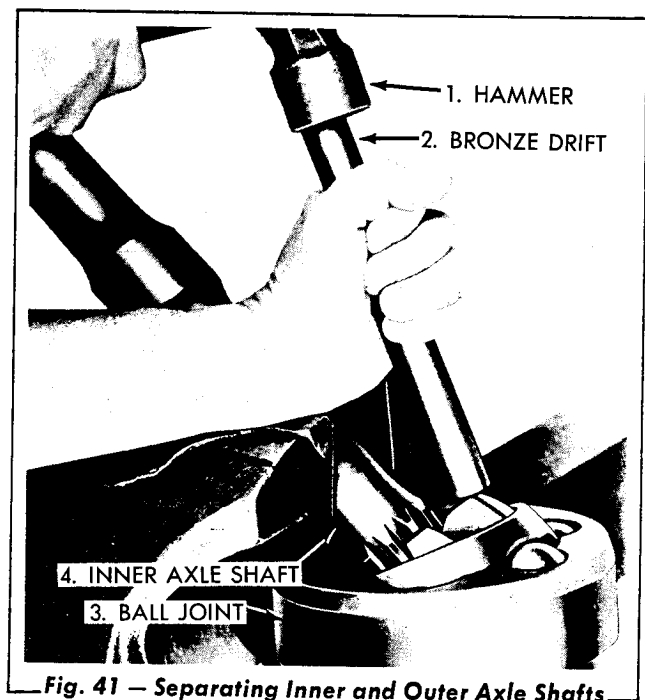

Fig. 41 — Separating Inner and Outer Axle Shafts
- b. Place the inner shaft into a bronze jawed vise so that the outer race bell is positioned downward (Fig. 41).
- c. Drive off the shaft, the bell, the bearing, and the cage assembly by using a bronze or brass drift against the end of the inner race (Fig. 41).